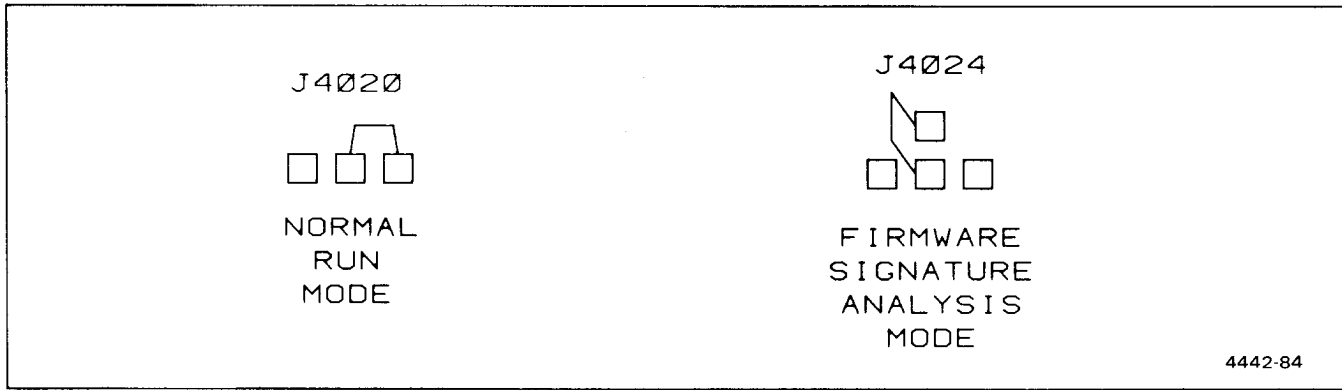

Fig. 9-9. Jumpers positions.
- b. Set the firmware signature analysis mode as shown in Fig. 9-9.
PS5004 FIGS. 9-9, 9-10, + 9-11